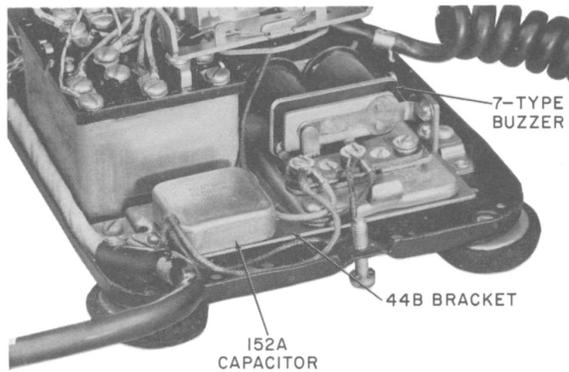

Fig. 4—Buzzer and Capacitor Assembly on 44B Bracket
3.08 Fig. 4 shows the mounting of a 7-type buzzer and a 152A capacitor on a 44B bracket. These parts must be ordered separately.